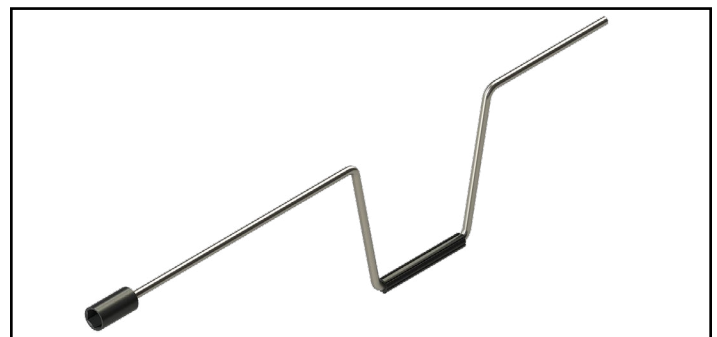

Fig.10
5. Insert the manual crank handle (Fig.10).
9. Remove the crank handle (Fig.10).
4. Insert the manual crank handle (Fig.10).
6. Remove the crank handle (Fig.10).